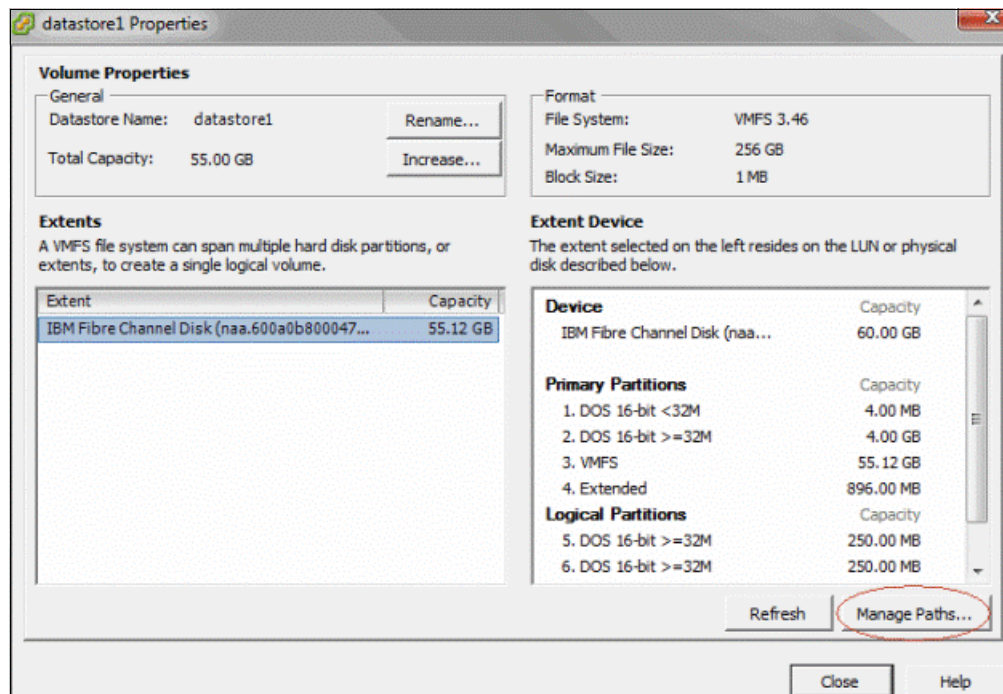

Figure 5-95 Manage Paths for datastore
4. Right-click the datastore, and select **Properties** → **Manage Paths**, as shown in Figure 5-95.